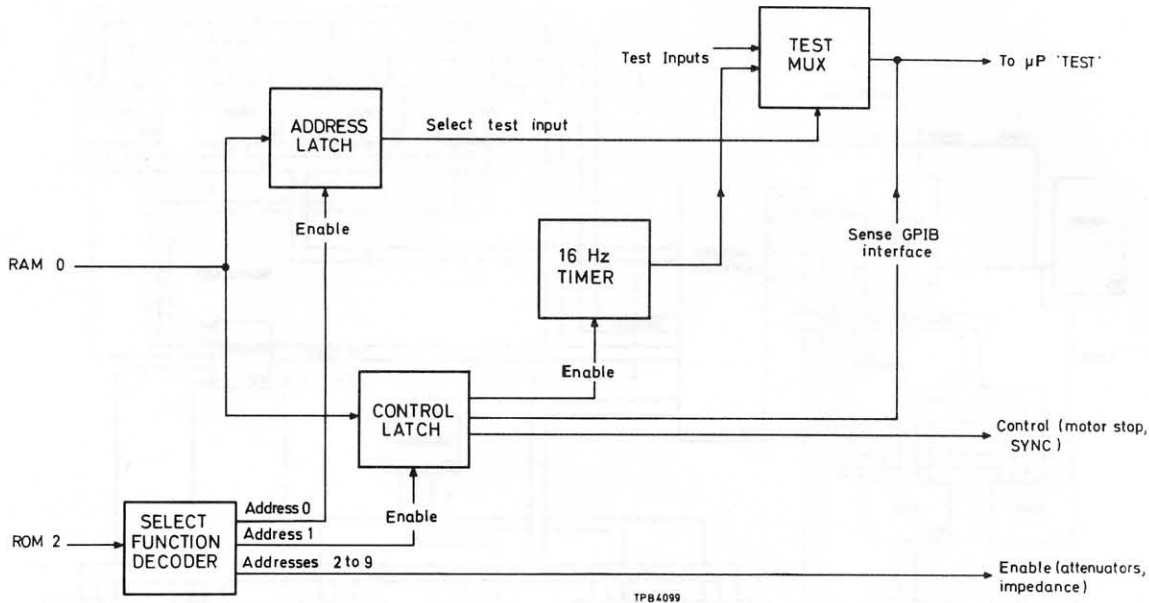

Fig. 18 Control interface
61. Inputs from ROM 2 to contacts 3 to 6 implement general instrument control by means of address decoder IC5. IC5 decoded addresses 2 to 9 provide enable signals for such functions as attenuation and impedance matching (see Fig. 18) for which the data are supplied by RAM 1. Decoder address 1 provides the enable signal for 8-bit addressable latch IC4 whose outputs supply control signals for such purposes as stopping the tuning motor or providing the SYNC output. To select the required operation, decoder address 1 is taken high to switch on IC6d which sets write enable pin 4 of IC4 low to allow the input of new data from RAM 0.